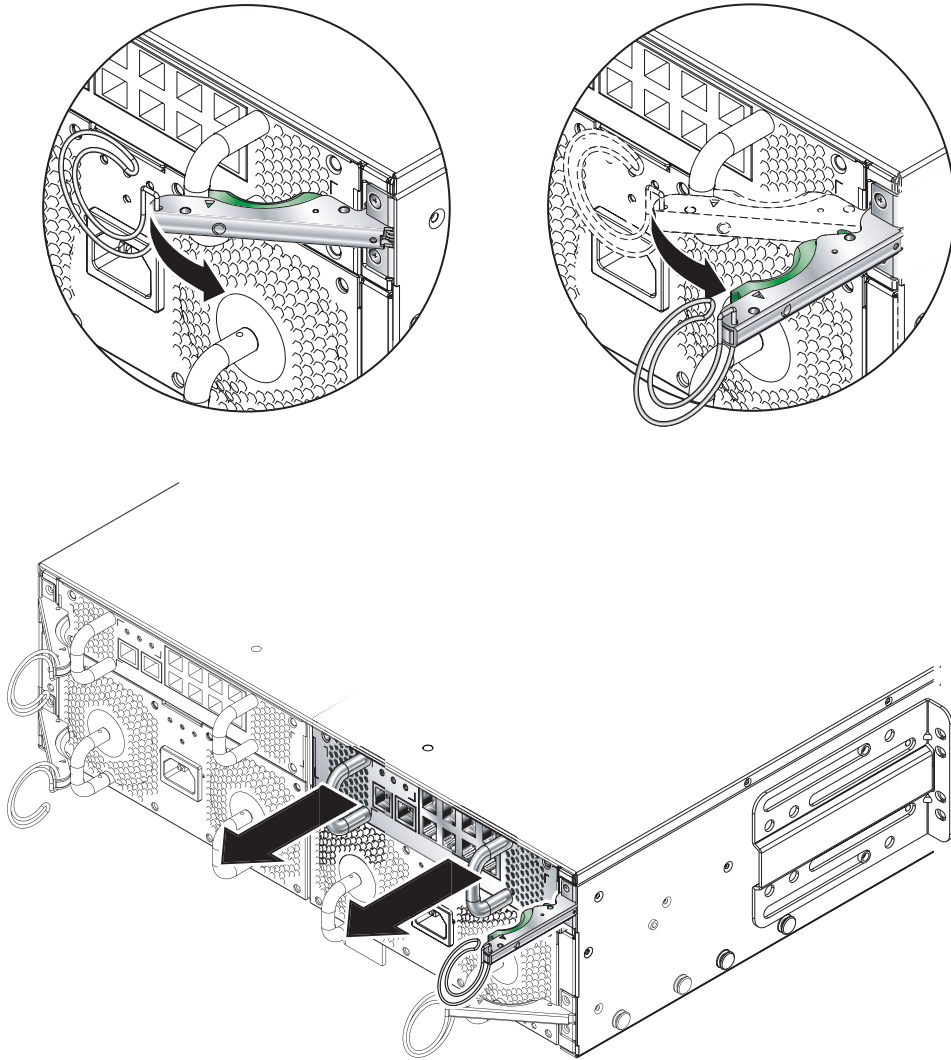

FIGURE 12-9 The SSC Ejector Lever
3. Squeeze the green SSC ejector lever to unlatch it, and then pull the lever towards you to disconnect the SSC from the system chassis (FIGURE 12-9).
4. Check that the ejector lever is open fully and clear of the SSC module (FIGURE 12-9).